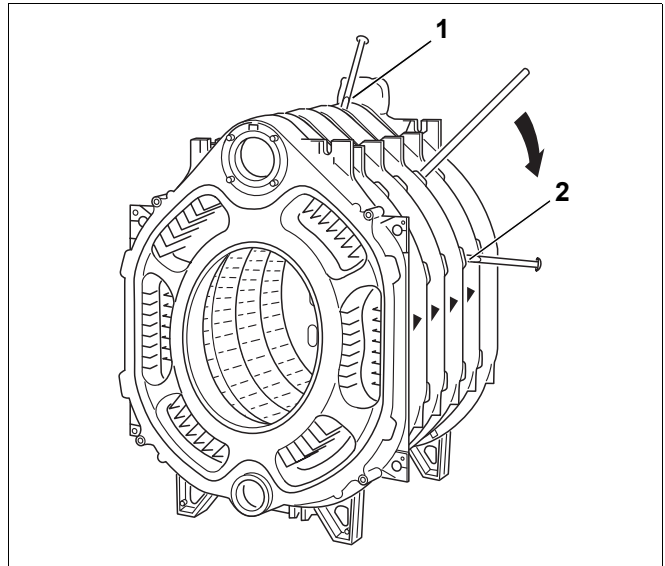

Fig. 22 Separating the boiler block
- Separate the boiler sections by driving (hammering) flat wedges or chisel at the points provided (Fig. 22, **Item 1 & 2**) at the top and bottom between the relevant sections.